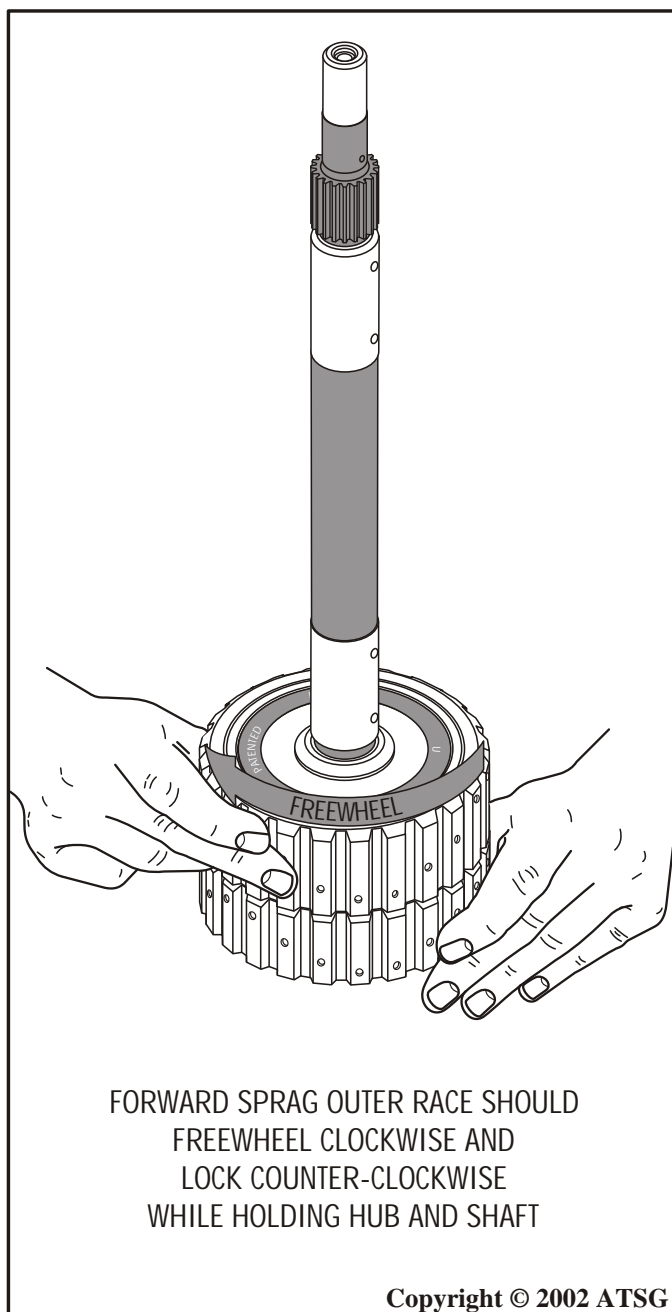

Figure 103
10. Check the forward sprag for proper operation as shown in Figure 103.
**Note:** *Forward Sprag Outer Race should freewheel clockwise and lock counter-clockwise, as shown in Figure 103.*